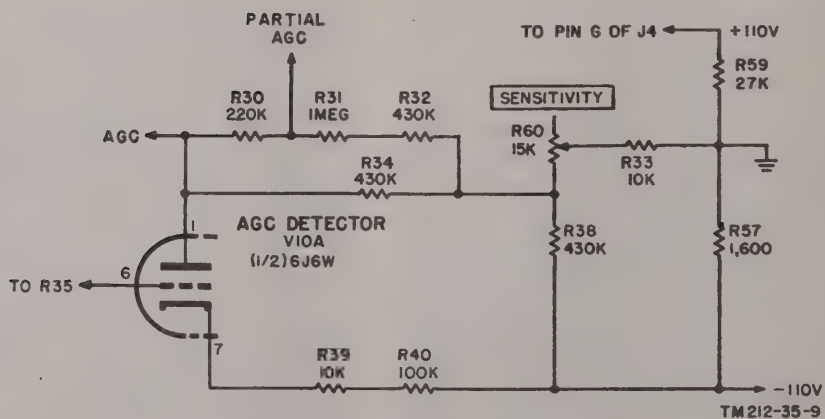

Figure 9. Agc detector V10A.
The age detector and control tube V10 is a type 6J6W twin triode that is used for three separate but related functions. Grid pin 6 and cathode pin 7 operate as a detector, plate pin 2, grid pin 5, and cathode pin 7, operate as a triode to control the operation of plate pin 1 and cathode pin 7 (fig. 9) which operate as the age bias diode. Note that each of these circuits use the common cathode pin 7. These circuits are explained below.
c. The age bias diode (fig. 9) consists of plate pin 1 and cathode pin 7. Plate 1 of V10A is connected through R34 to the junction of SENSITIVITY control R60 and resistor R38 (fig. 9). Resistors R30, R31, and R32 form a voltage divider which is in parallel with R34. Resistor R38, SENSITIVITY control R60, and resistor R33 are connected across the -110-volt supply and ground (fig. 9). The junction of R38 and SENSITIVITY control R60 to which plate pin 1 is connected may be varied in potential (-2.42 to -6.05 volts), by adjusting the SENSITIVITY control. This voltage is the no-signal bias for the various stages in the receiver.
d. The cathode of V10A (fig. 9) is positive with respect to ground when weak RF signals are being received. As the signal strength increases, the cathode becomes less positive and finally for strong signals negative. A detailed description of how this occurs may be found in *b* above. When the RF signal being received is weak, there is no age action since the cathode of V10A is positive; its plate is negative (plate potential was established in *c*